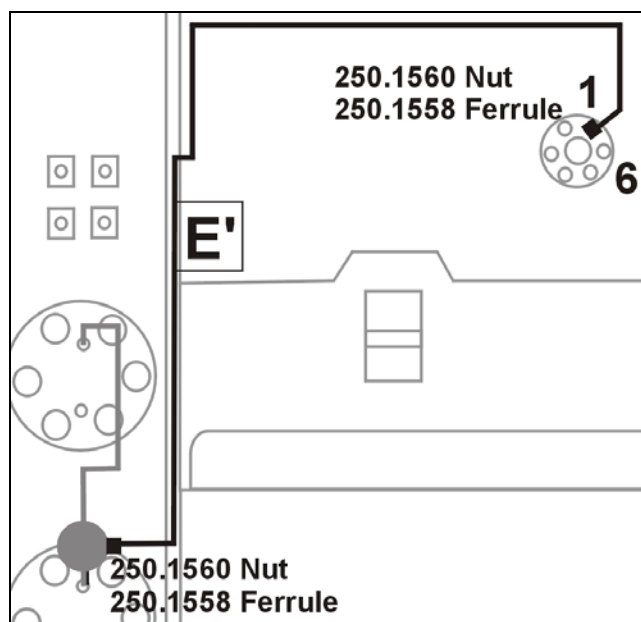

Figure 10. Assy E: Connection between pulse damper – AS 100.
7. **Assembly E'**, OR 100 pulse damper outlet assembly (p/n 180.0213): Connect the pre-shaped stainless steel tubing to the available port on the mixing-T as depicted in figure 10. Connect the other side of the tubing to port 1 of the AS 100 injection valve. For both connections a set of nuts and ferrules is supplied (250.1558 and 250.1560).